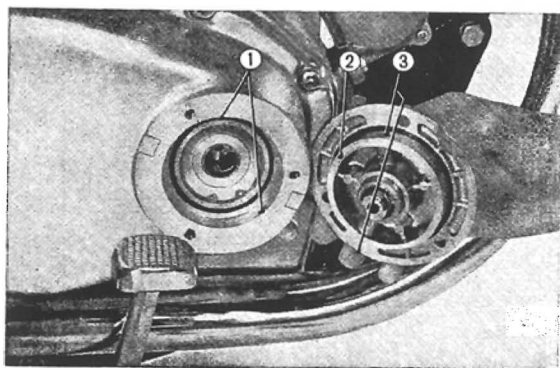

Fig. 6.18 Oil filter cover installation
- ① Air cleaner element
- ② Brush
(4) When reinstalling the oil filter cover, match the right crankcase cover oil filter opening and the filter cover oil opening. (Fig. 6.18)